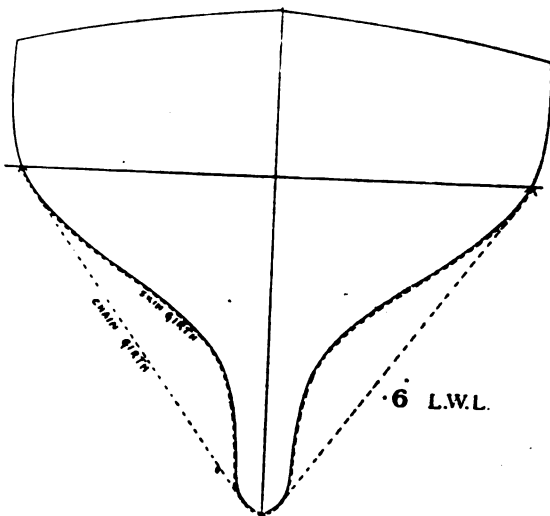

FIG. 1.
Before discussing the possibilities under the rule it may be well to explain what is meant by each element. The length (L) is the length on the L.W.L. B is the extreme beam. G is the chain girth taken at $\frac{1}{6}$ of the L.W.L. from its fore-end; d is the difference between the chain girth, and the skin girth at that section (as in Fig. 1). $\frac{1}{2}\sqrt{S.A.}$ explains itself. These elements are added together, and divided by 2.1, and the result is the linear rating of the boat.